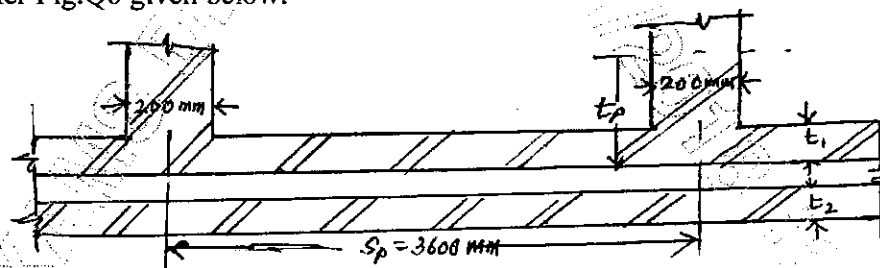

Fig.Q6
- 6 Design an interior cavity wall with cross-walls for a three storeyed building, the ceiling height of each storey being 3m. The wall is stiffened by intersecting walls 200mm thick at 3600mm centre to centre. Assume loading from roof = 16 kN/m and from each floor = 12.5 kN/m . Refer Fig.Q6 given below. (16 Marks)